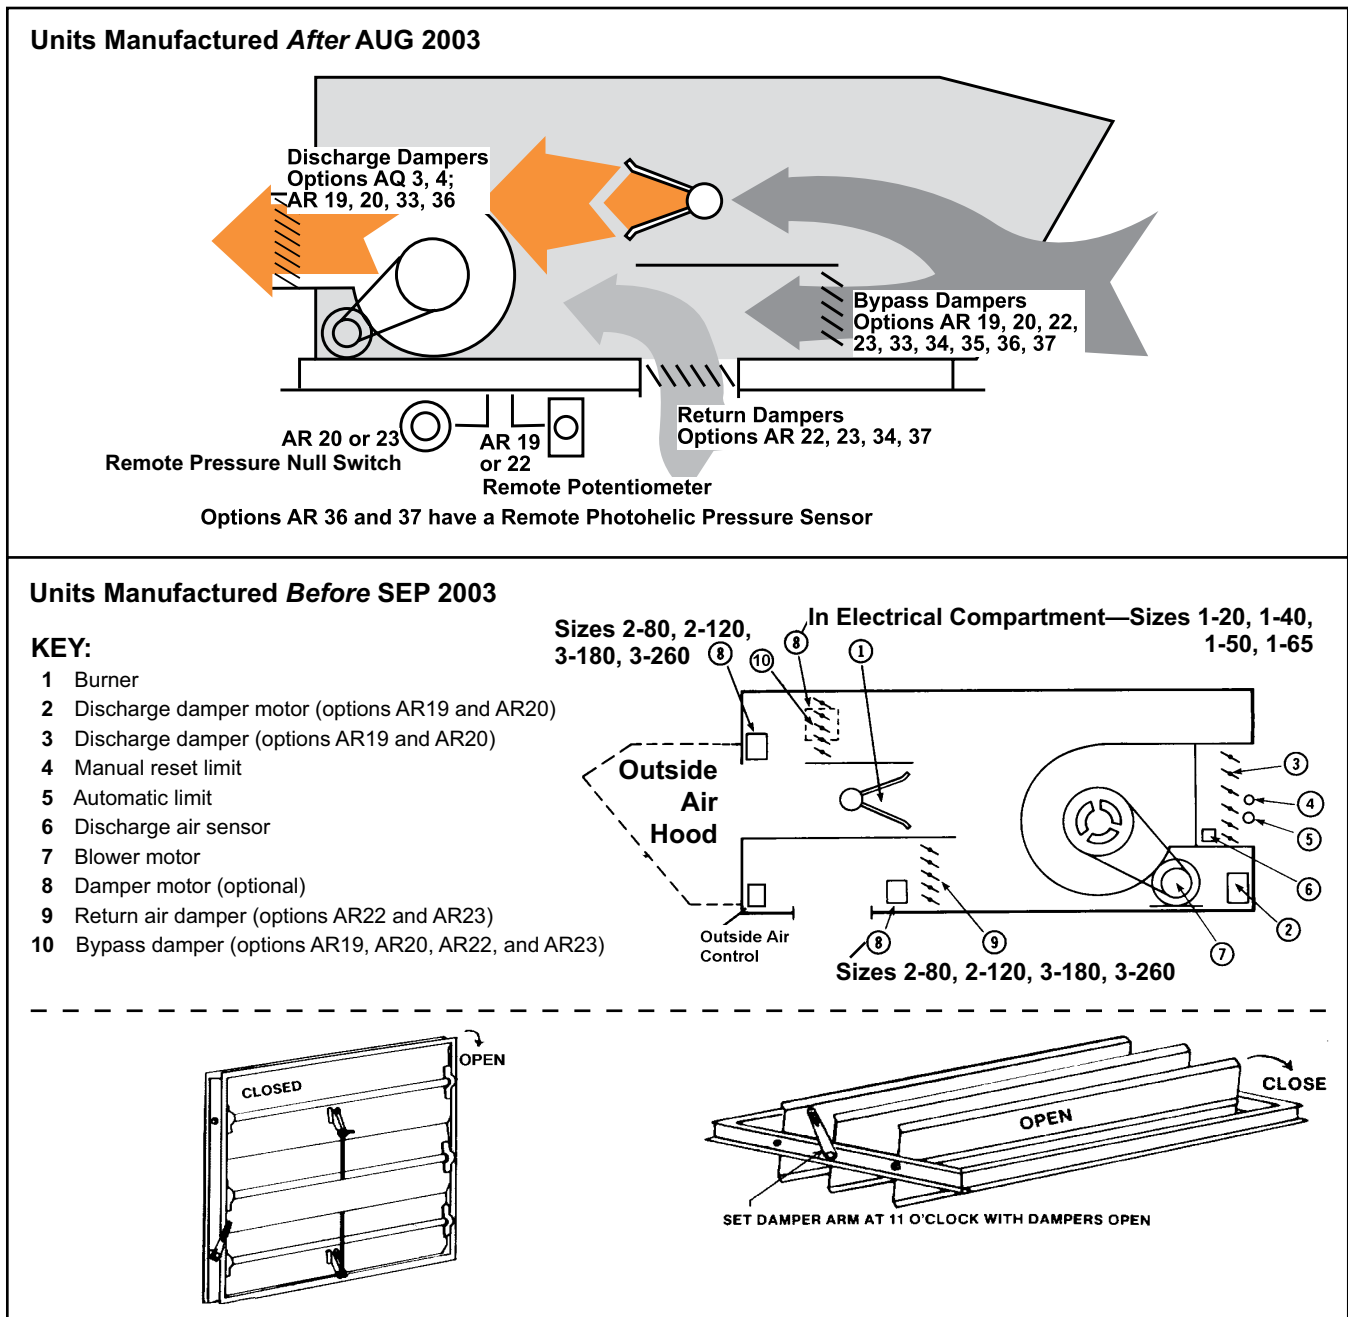

Figure 14. Damper and Damper Control Locations
- Damper locations are shown in Figure 14.